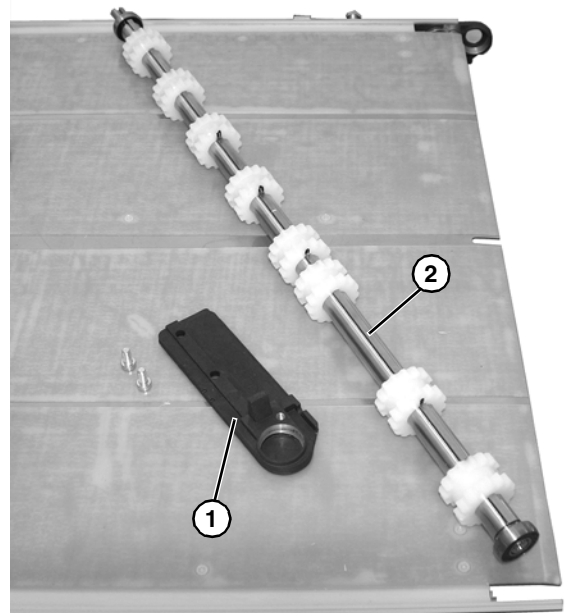

Figure 49
- Remove head plate (**Figure 49, item 1**) from frame.
- Replace spindle (**Figure 49, item 2**).